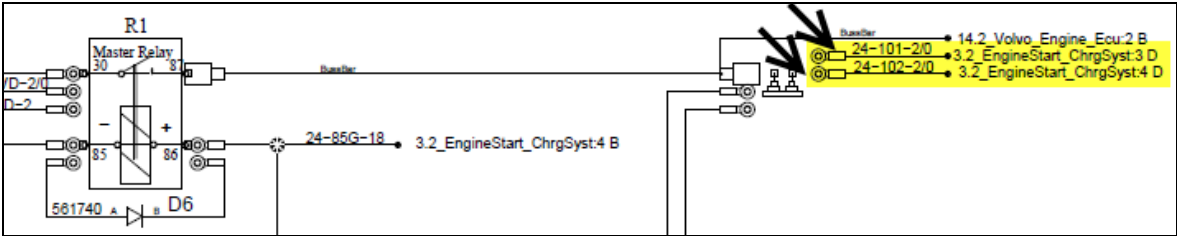

Figure 6
- In the electrical compartment, **connected to the junction block** (Figure 6).